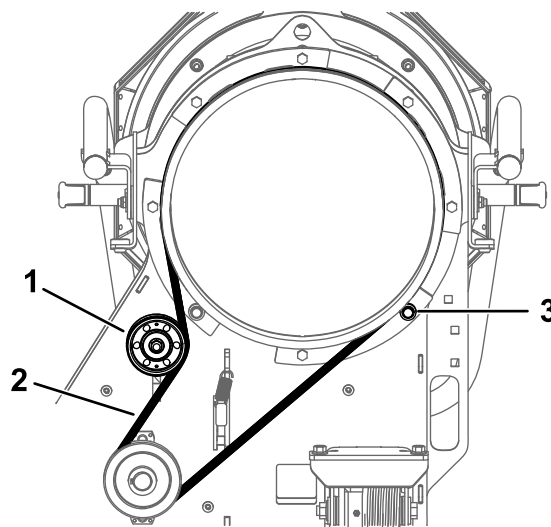

Figure 36
1. Bolt (3)
4. Loosen the nut on the top pulley and slide the pulley up to release tension on the belt (Figure 36).
5. Remove the roller bearing (Figure 36).
6. Remove the belt and install a new belt (Figure 36).
7. Install the roller bearing (Figure 36)
8. Slide the top pulley down until the belt deflection is 5 mm (0.19 inch) at the center of the largest span and tighten the nut (Figure 36).